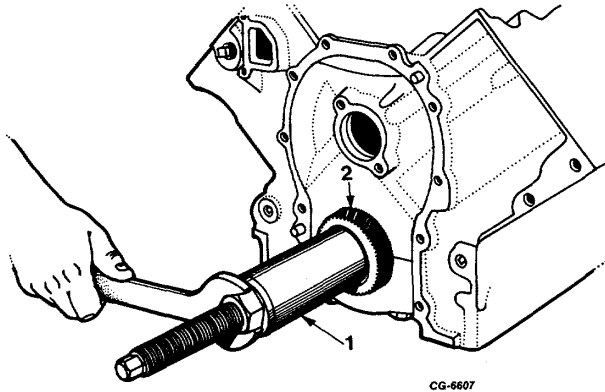

Fig. 145 Installing Crankshaft Gear
13. Position gear key in keyway of crankshaft. Lubricate inside diameter of crankshaft gear with a commercial press-fit lubricant. Install crankshaft gear using installer tool set SE-1900 (Figure 145).